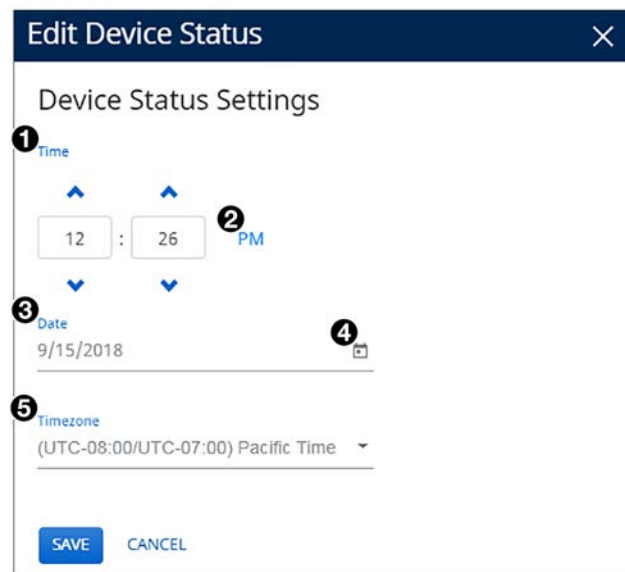

Figure 53. Edit Device Status Panel for Date and Time Setting
- **Time** — In the **Time** panel (see figure 53, ①), either click in the hour and minute text fields and enter the time, or click the up and down arrows to display the desired values.
- **AM or PM** — Click the button (②) at the right of the time fields to toggle between **AM** and **PM**.
- **Date** — In the **Date** field (③), either click in the text field and enter the date, or click the calendar icon (④) and select the desired date in the pop-up calendar (current month only).
- **Time Zone** — In the **Timezone** panel, select the desired time zone from the drop-down menu (⑤).